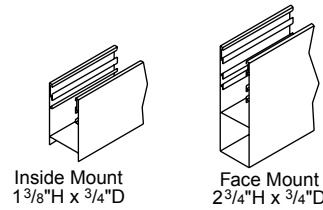

Figure 9
- ⑦ Install sill channel between side channels using appropriate fasteners (see Fig. 9). On some large MICRODOORS, the sill channel is replaced by an angle. NOTE: Be sure of a centered and snug fit between side channels.
- ⑧ Re-install roller assembly by generally reversing procedures in step four. If you have a spring assisted clutch operator or a spring roller operator, the notch on the spring roller should be positioned down. The spring has been pre-tensioned in the factory.